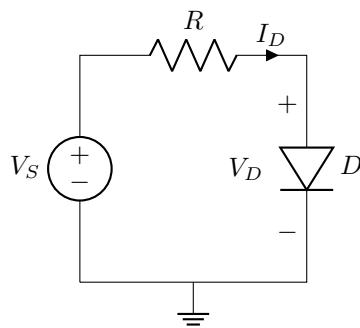

Figure 1: Forward-bias pn junction I–V characteristic measurement circuit.
Begin by constructing the circuit shown in Figure 1 on the breadboard using the small-signal silicon diode and the 1 kΩ resistor. Ensure that the diode is oriented correctly with the anode connected toward the positive supply terminal and the cathode toward ground. Set up the lab instruments to measure the diode voltage V_D and current I_D . To measure the voltage, connect the leads of the DMM (Digital Multimeter) across the diode terminals to measure the diode voltage directly. To measure the current, there are two options: connect a second DMM in series with the circuit (being careful to observe the current measurement limits of the meter) or measure the voltage across the resistor and calculate the current using Ohm's law ($I_D = V_R/R$). The second method is often preferred as it avoids potential issues with the meter burden voltage.
2. For the circuit in Figure 1, assume $V_S = 5$ V, $R = 1 \text{ k}\Omega$, and the diode forward voltage is 0.7 V when conducting. Calculate (a) the voltage across the resistor, (b) the current through the diode, and (c) the power dissipated by the diode. Show all calculations.